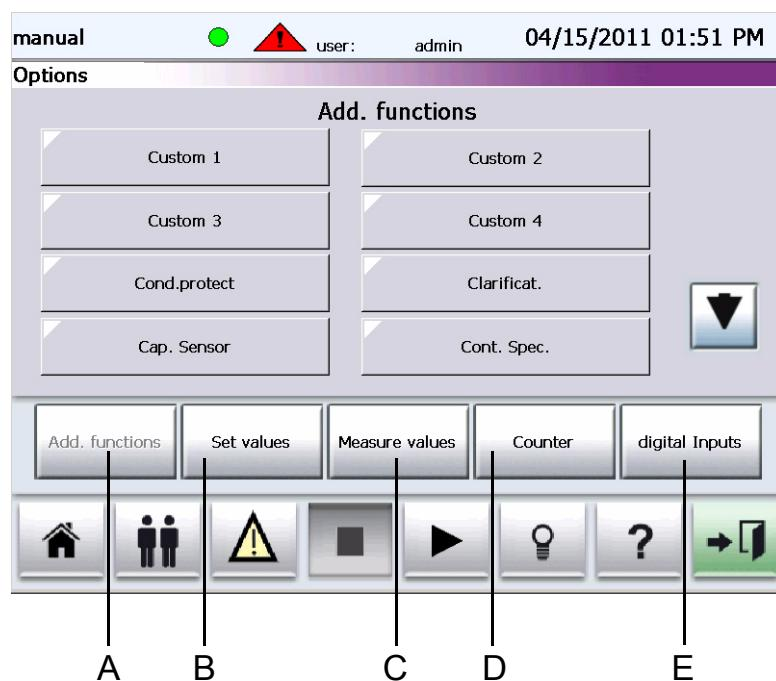

Fig. 4-4
- refer to chapter 4.3 , Fig. 4-4 (page 44)
- refer to Chapter 4.3, Fig. 4-4 (page 44)